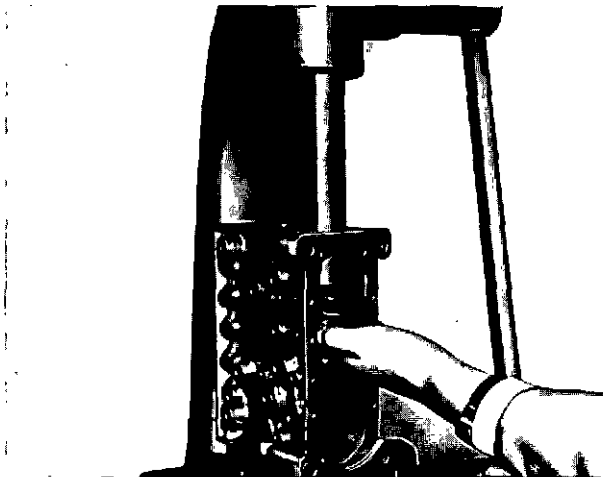
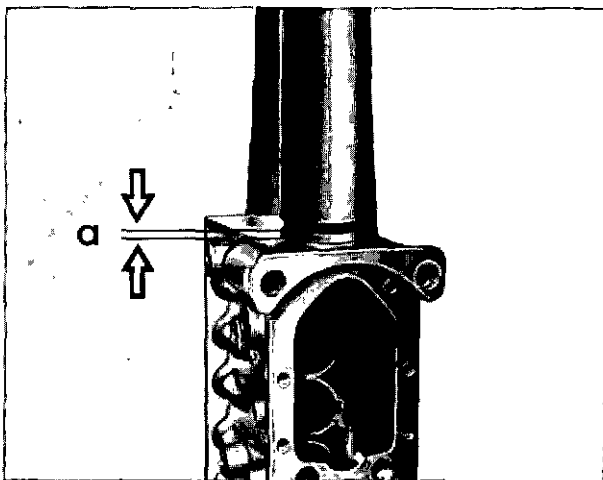

Fig. 17 Removing outer race from governor end.
Fig. 18 Re-positioning outer race (first operation).
- (a) Remove bearing outer race at governor end (fig. 17). Then press it in again until it protrudes 3 mm (0.118 inch), as shown by dimension 'a' in fig. 18.